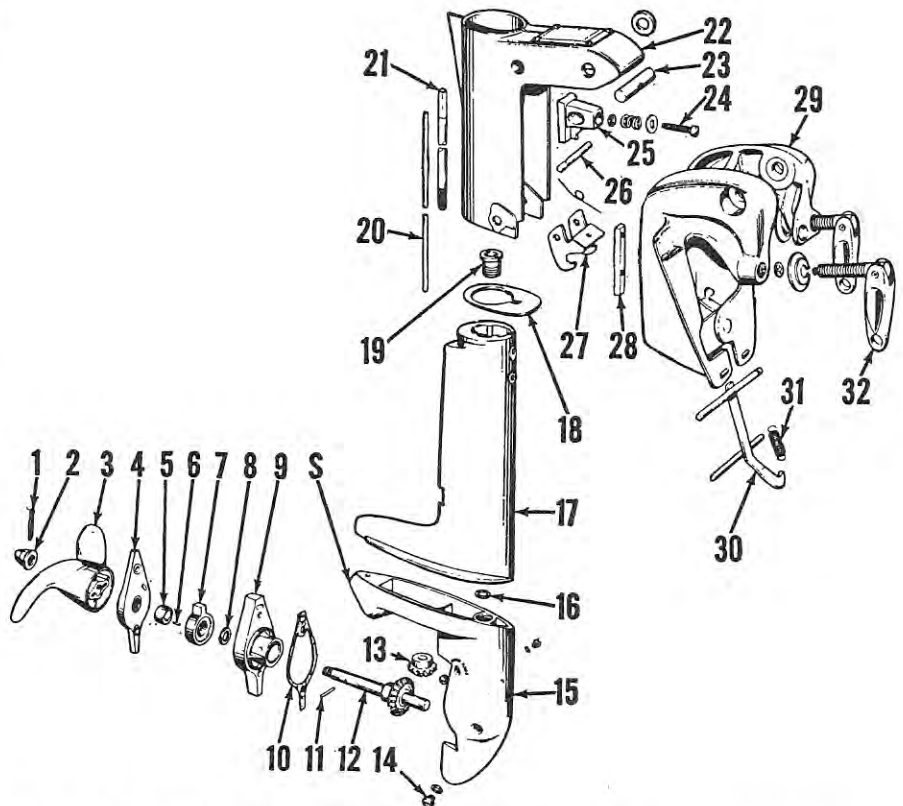

Fig. G10—Exploded view of stern bracket and lower unit showing component parts.
Use Fig. G10 as a guide when overhauling the lower unit. To service the water pump or propeller shaft and gears, remove cotter pin (1), nut (2) and shear pin (11); then, disassemble the water pump. Check for plugging in water inlet hole in propeller hub and in pump cover (4). To remove the gearcase housing (15) from exhaust and driveshaft housing (17), first remove the power head as outlined in the appropriate section. Withdraw driveshaft (21) and, using a long screwdriver, remove bushing (19) which attaches gearcase to driveshaft housing. Remove the screw located in exhaust outlet, indicated by (S), then withdraw the gearcase housing, being careful not to damage the water tube.
STEERING TENSION. Steering tension can be adjusted by turning screw (24—Fig. G10) until motor is easy to steer, but will maintain a set course.